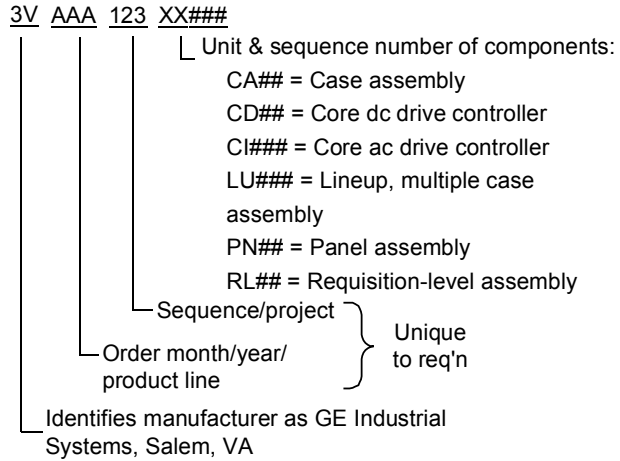

Figure A-6. Sample Drive ML (Catalog) Number
Each GE lineup, cabinet (panel)/case, and core unit has a unique identifying catalog number, also called the **part or material list (ML) number**. This number is structured to provide information about that equipment (see Figure A-6 for example). The catalog number links the equipment to its requisition, drawings, components, materials, specification item, and shipping documents.